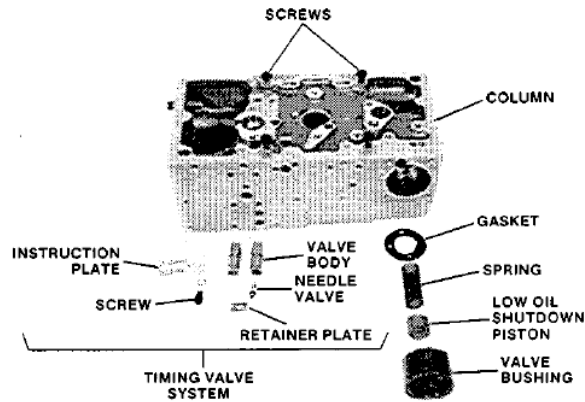

Figure 5-16. Low Lube Oil and Timing Valve Systems
16. Remove low-lube-oil valve bushing, piston, spring, and gasket (Figure 5-16).
18. Remove 4 screws. If water box is present, disconnect both tubes from column. Then separate column from power case (Figure 5-16).